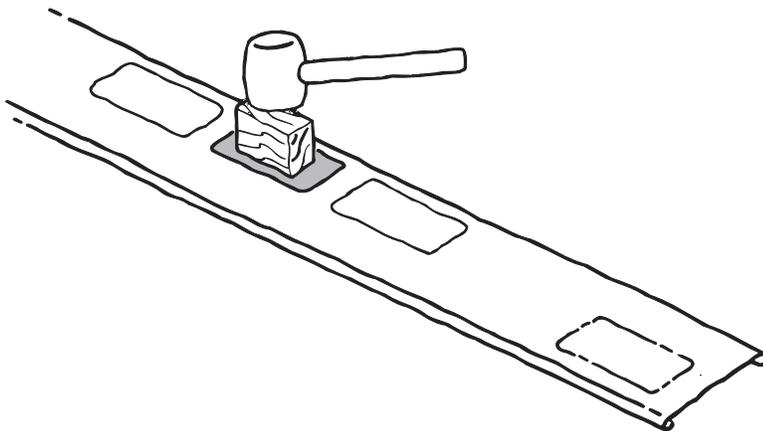

Fig. 2
3. Push the base infeed into the terminal block, listening for the two snaps indicating proper engagement. The base infeed is fully engaged when the infeed face and body are flush with the terminal block. (Fig. 2)